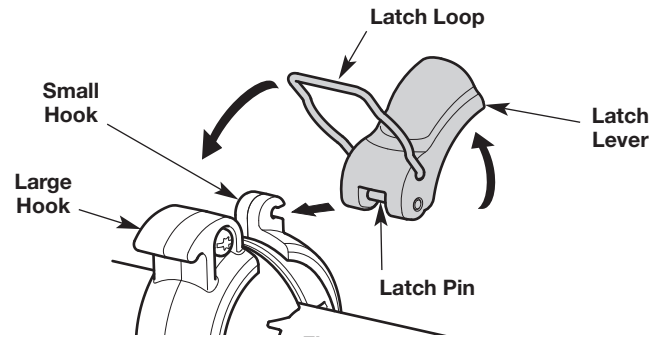

Fig. 7
6. Push the latch pin completely into the small hook on the handle (Fig. 7). Lift the latch lever up and push it toward the large hook (Fig. 7). Push the latch loop over the large hook (Fig. 7).